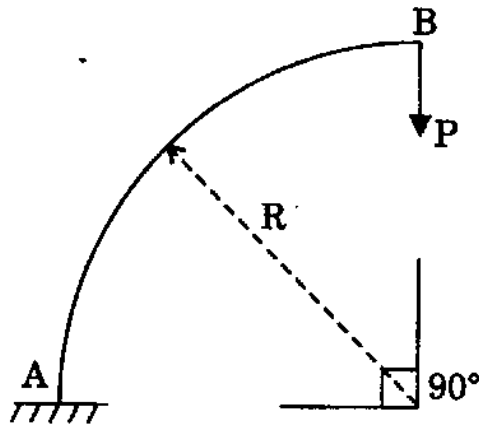

Figure 3
- (d) Determine the vertical deflection at the free end of a circular cantilever frame shown in Figure 3 using the unit load method. Take $EI = \text{constant}$. 5